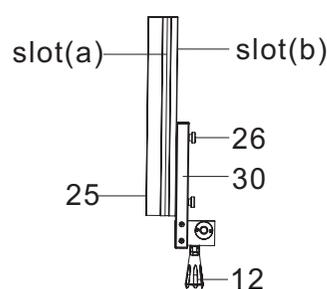
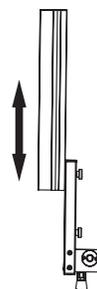

Fig. 15
Fig. 16
For thick material you must use the stop rail (25) as shown in Fig. 15, for thin material you must use the stop rail as shown in Fig. 16.